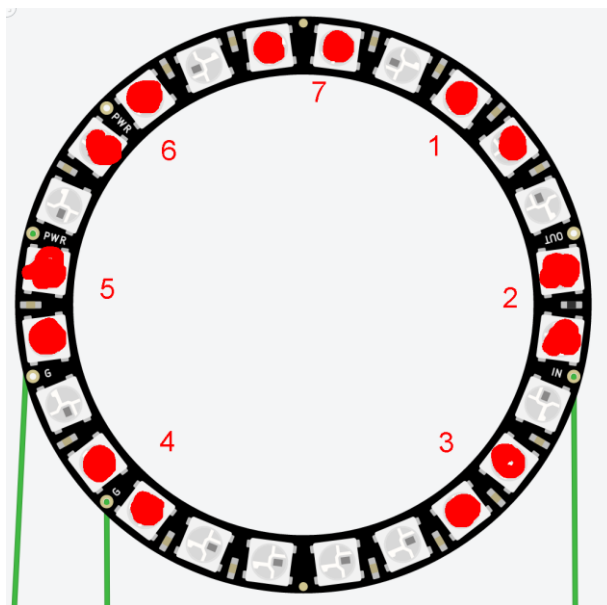

FIGURE 6: LEDS INDICATING SUCCESSFUL "LOCKING IN" OF ADDRESS DIGITS
- After a few seconds (2-3), the first digit “locks into” the Stargate. Locking in means that two LEDs start lighting constantly, indicating that the Stargate accepted that digit (see Figure 6).